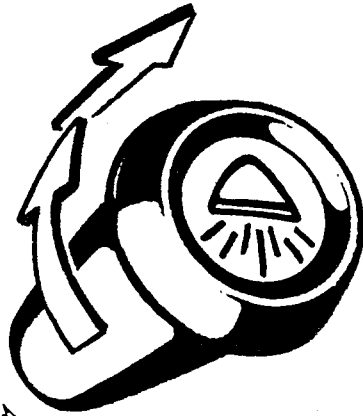

Fig. 5—Lighting switch.
Turn knob fully to the right, in direction of arrows (Fig. 5), to switch "on" the side, rear and tail lamps; pull the knob fully out while in the turned position, to energize the headlamps.
*Handwritten note:* Turn knob fully to the right, in direction of arrows (Fig. 5), to switch "on" the side, rear and tail lamps; pull the knob fully out while in the turned position, to energize the headlamps.